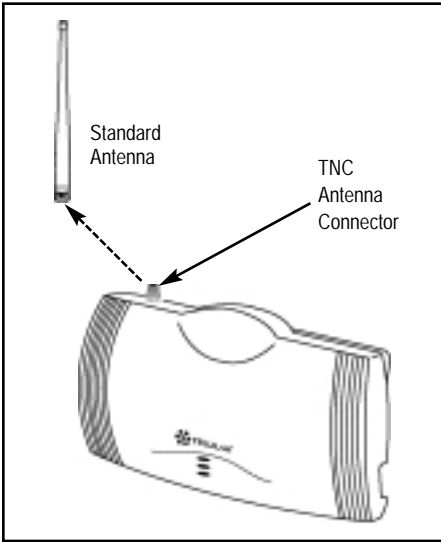
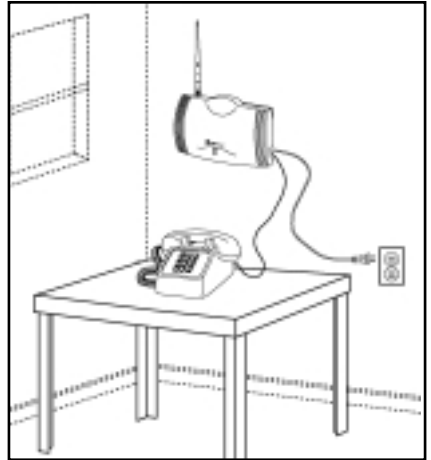

Figure 1 - SX4e antenna installation.
Figure 2 - For optimum signal strength, locate the unit near a window with the antenna pointed upward.
The Phonecell SX4e comes with a standard spike antenna - **See Figure 1**. The Phonecell SX4e comes with a standard spike antenna (TNC). For optimal signal strength, choose an antenna location that is above ground and as close to windows (or exterior walls) as possible - **See Figure 2**. Cellular signal strength is displayed by the Received Signal Strength Indicator (RSSI) LED on the unit - See the *How to Use the LED Status Indicators* section of this guide.
- 1) Connect the antenna to the SX4e - **see Figure 1**.